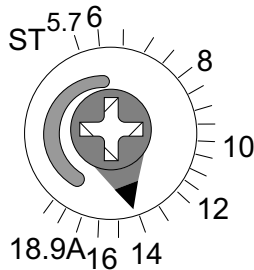

Figure 16. FLC (A) Dial
There is a dial on the upper left-side on the Electronic Overload Unit that requires adjustment to meet the amperage requirement of the pump motor in use. This dial is referred to as the **FLC (A)** dial pointer and is shown in Figure 16.
1. Set the **FLC (A)** dial (Figure 16) to the correct amperage for the pump motor in use. Use Table 13, to determine the correct amperage setting.